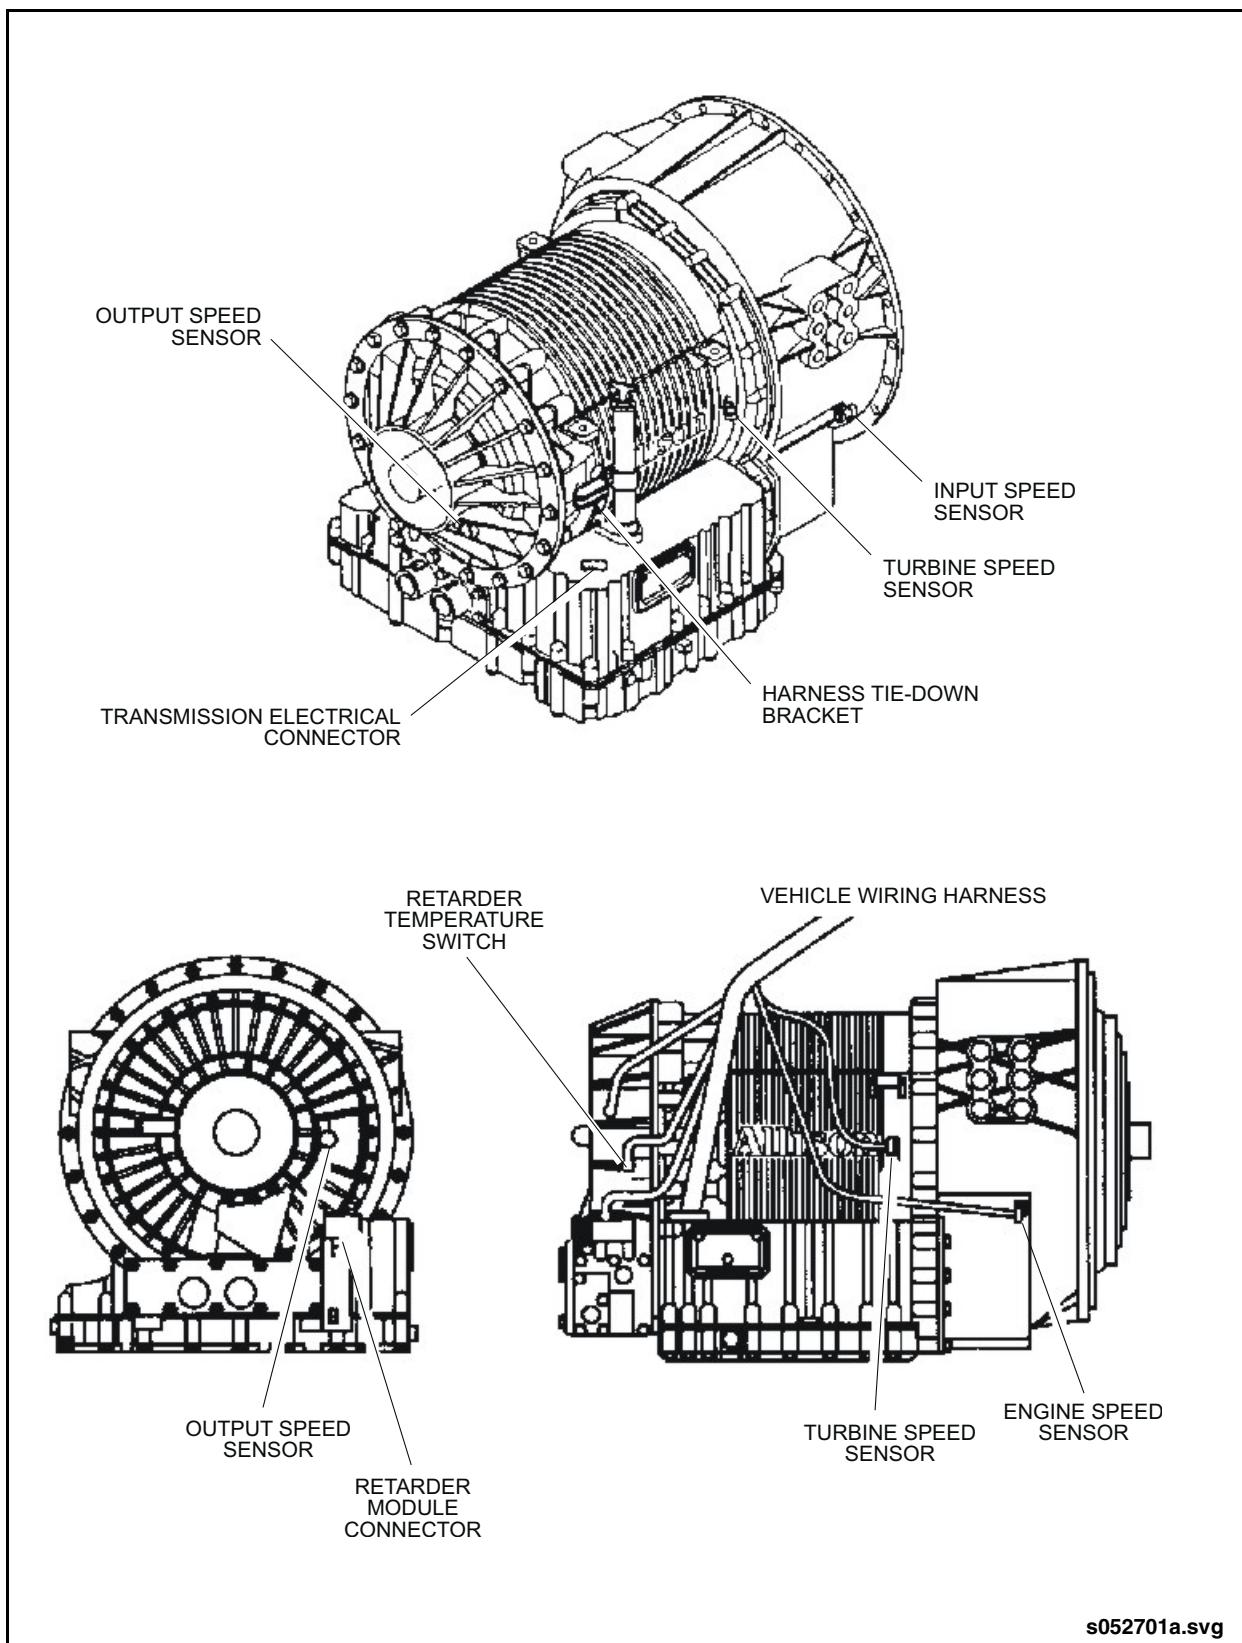

Fig. 5-8: Transmission Wiring Harness
2. Connect transmission module and sensor harness connectors. See "Fig. 5-8: Transmission Wiring Harness" on page 16.